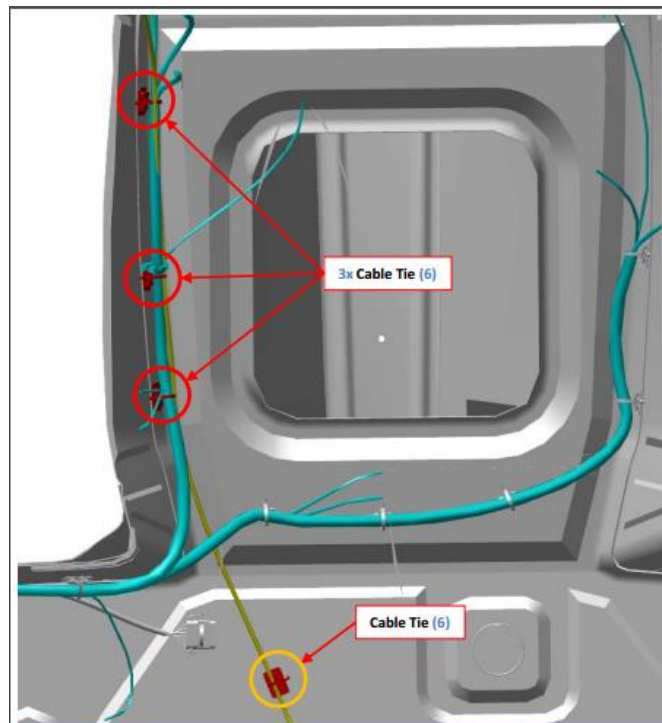

Figure 7: Securing locations on the aft fuselage bulkhead (either configuration is acceptable)
- Route the remaining conduit through the forward main fuselage bulkhead underneath the main landing gear actuator and up the right side of the aft main bulkhead up through the forward side of the right-side firewall access hole as shown the Figure 7 below. **Note:** Some aircraft don't have p-clamps as shown but instead installed are ty-wrap blocks. Either configuration is acceptable if the conduit is secure in all the locations shown with either a p-clamp or TY24MX ty-rap.